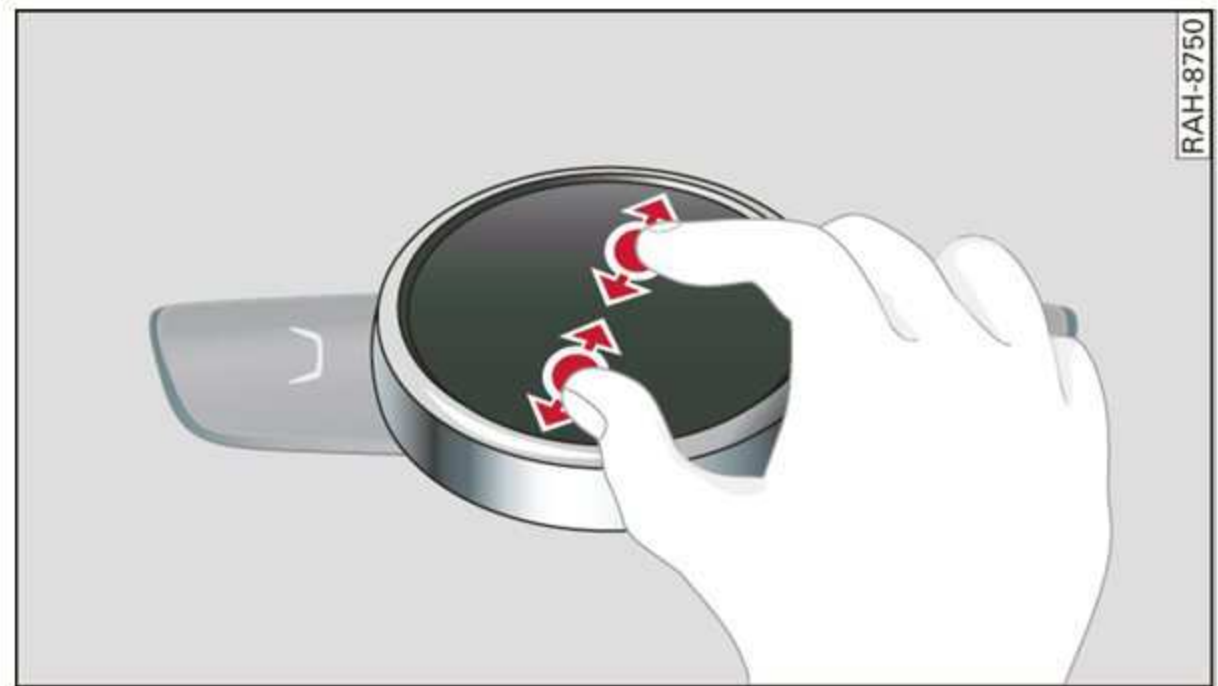

Fig. 102 Zooming in and out on the map
- **Zooming in/out on the map:** press the control knob to show the crosshairs. Touch the MMI touch control pad with two fingers and pull your fingers apart or together ⇒ fig. 102.